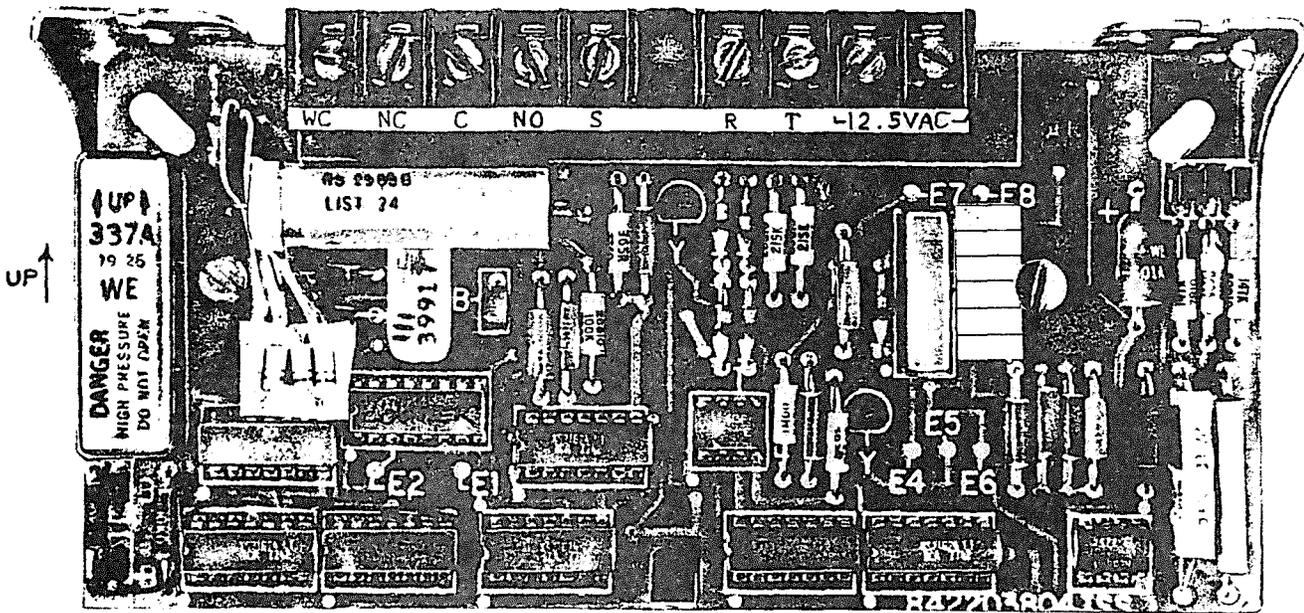

Fig. 5 - ECSU With Cover Removed
- 5.4 Mount the ECSU per local instructions. If applicable electrical codes require wiring in conduit, a metallic housing is available instead of the standard plastic housing. The customer may furnish his own enclosure for the ECSU. The ECSU must be vertically surface-mounted (see Fig. 5). due to its mercury relays. It requires 1 inch nominal clearances at the bottom and sides and enough clearance on top to permit access to the terminal connections.